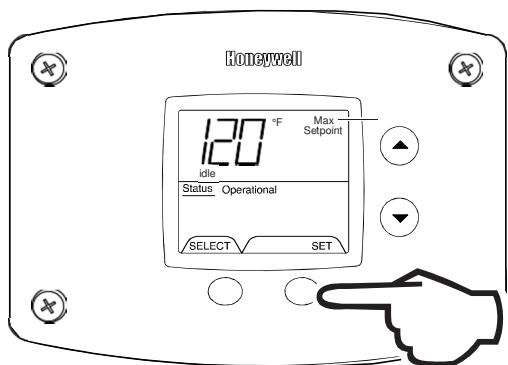

Figure 42
4. Press 'Set' button to confirm new 'Max Setpoint' value and stop setting mode (Fig. 42).